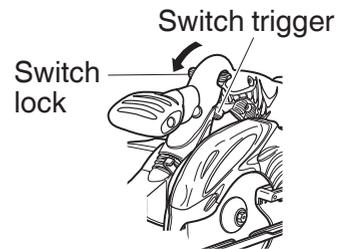

Fig. 19
- Operation of switch (**Fig. 19**)